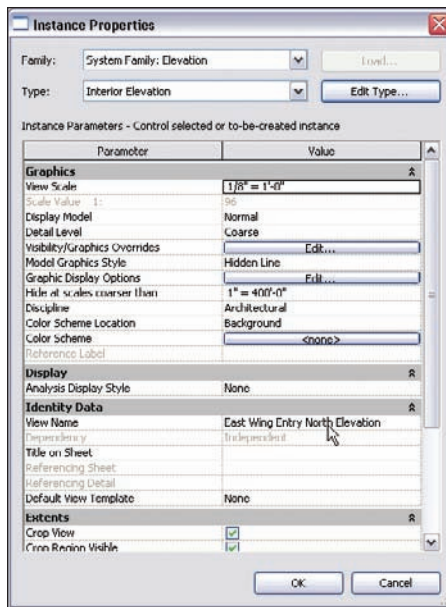

FIGURE 3.81: Changing the View Name setting to East Wing Entry North Elevation
2. In the Properties dialog, notice you have a wealth of information about that view. You also have a multitude of options as well. The option we are going to change is View Name, as shown in Figure 3.81. Find View Name under the Identity Data heading, and change it to East Wing Entry North Elevation, as shown in Figure 3.81.